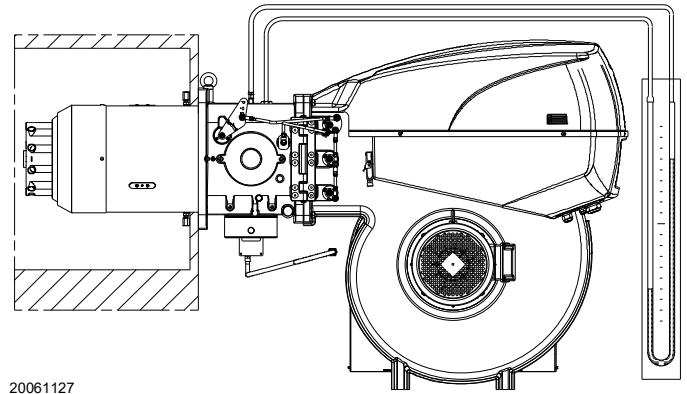

Fig. 23
- Fit a U-type pressure gauge or a differential pressure gauge (Fig. 23), with socket (+) on the gas pressure of the pipe coupling and (-) in the combustion chamber. Used to approximately calculate the MAX burner output.
The arrival of gas at the pipe coupling is indicated by the U-type pressure gauge (Fig. 23).